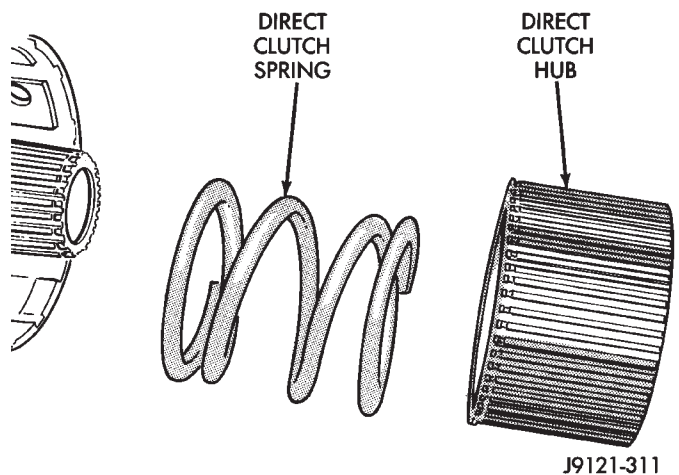

Fig. 201 Direct Clutch Hub And Spring Removal
(1) Remove direct clutch hub and spring (Fig. 201).